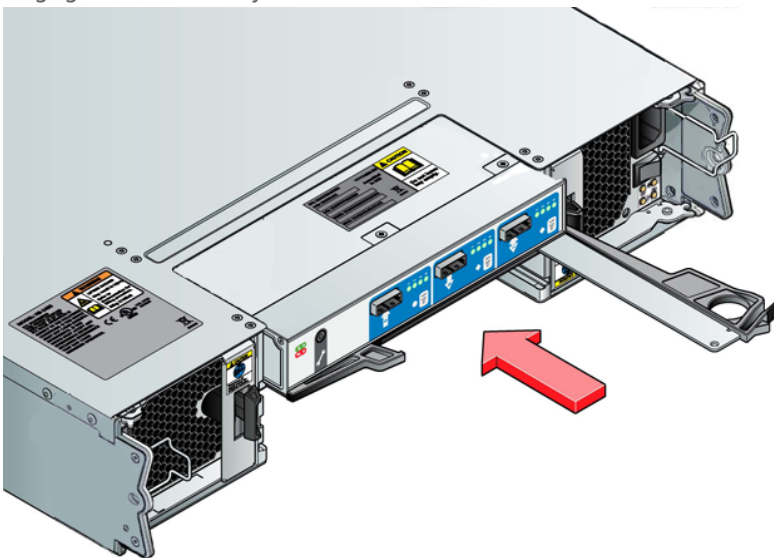

Figure 6-13 - Installing an I/O Module
2. With the latches in the open position (see Figure 6-13), slide the module into the enclosure until the latches engage automatically.